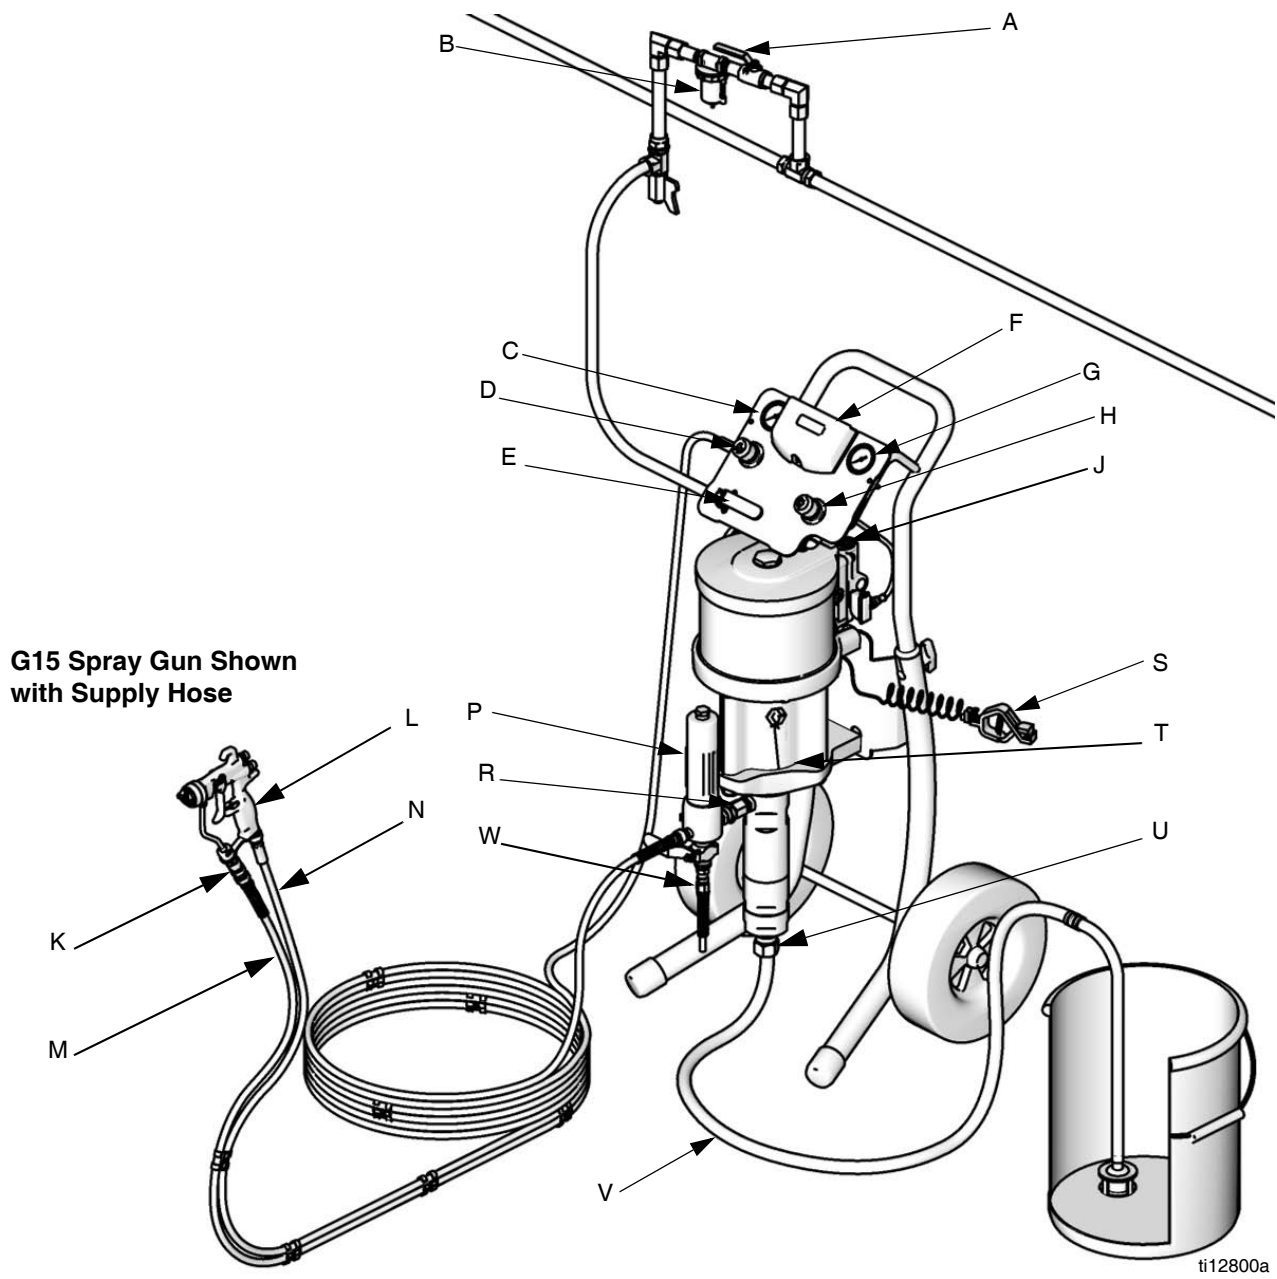

FIG. 1. Typical Installation (Your package may not include all items shown.)
FIG. 1 is only a guide for selecting and installing system components and accessories. Contact your Graco distributor for assistance in designing a system to suit your particular needs.
See FIG. 1. **Components vary by package ordered.** See tables on pages 6 to 14. Your package may include:
Install the following accessories in the order shown in FIG. 1, using adapters as necessary.
1. See FIG. 1. Attach end of blue fluid hose (M) to pump outlet (R) or filter (P) outlet.
2. Attach one end of the air hose (N) to gun air regulator (D).
3. Attach remaining end of the air hose (N) to air inlet at base of gun (L).
4. Attach gun swivel (K) to gun fluid inlet.
5. Attach other end of blue fluid hose (M) to gun swivel (K).
2. See FIG. 1. Turn off the bleed-type master air valve (D).
1. See FIG. 1. Lock gun trigger. Remove tip guard and spray tip from gun (L). Refer to gun manual.
2. Close gun air regulator (D) and pump air regulator (H) by turning knobs counterclockwise reducing pressure to zero. Close bleed-type air valve (E). Also verify that all drain valves are closed.
3. Connect air line to bleed type air valve (D).
6. Hold metal part of gun (L) firmly to side of grounded metal pail, unlock trigger, and hold trigger open.
8. Open bleed-type air valve (E). Slowly turn clockwise pump air regulator (H) increasing pressure until pump starts.